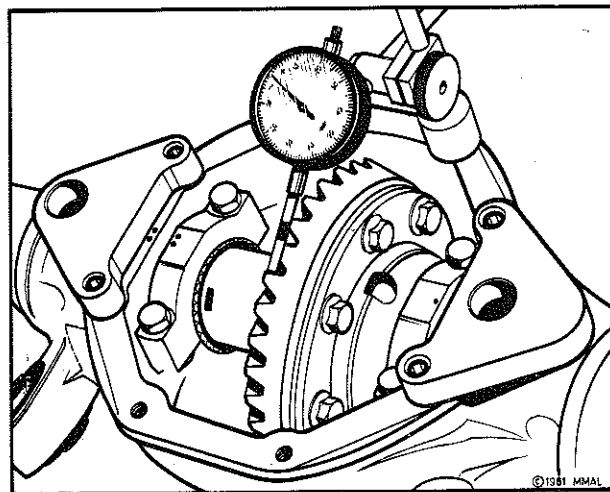

Fig. 33—Measuring minimum backlash
(1) Attach a dial indicator to the carrier, bringing the indicator parallel with the drive gear rotation and into contact with one tooth, refer Fig. 33.